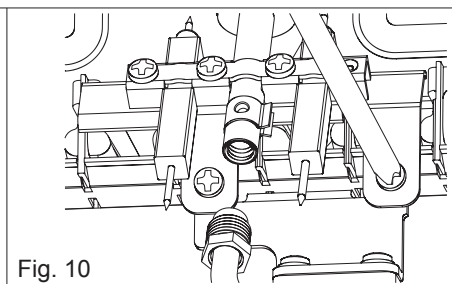

Fig. 10
- Remove the screws that hold the pilot flame in position (fig. 10)